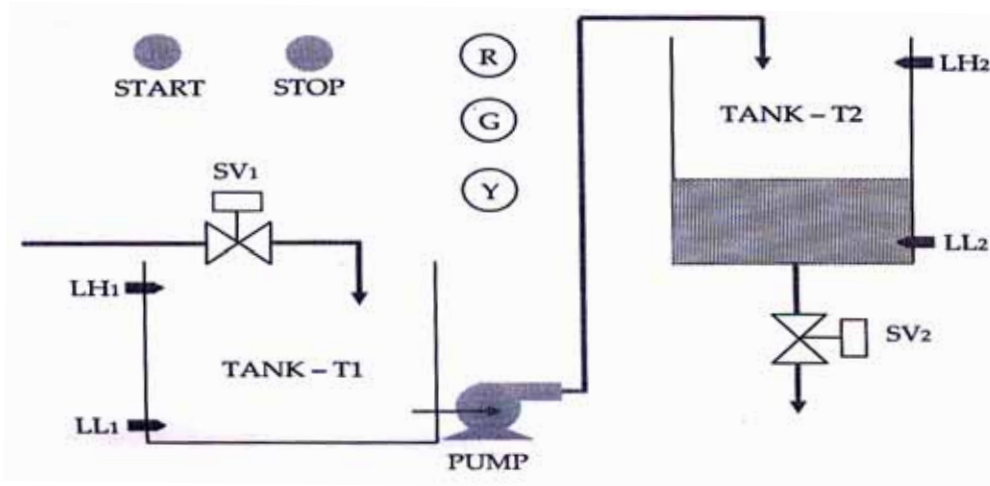

Fig. 2. : Level Control (Q. 10b.)
- b) Develop a physical ladder diagram for the level control application in Fig. 2